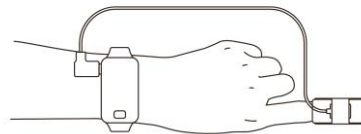

Figure 4 Sketch map for finger placement
- A. Insert a finger into the probe, as shown in Figure 4.
(the appearance of the actual probe may be different with the one shown as Figure 4, please refer to the actual one.)